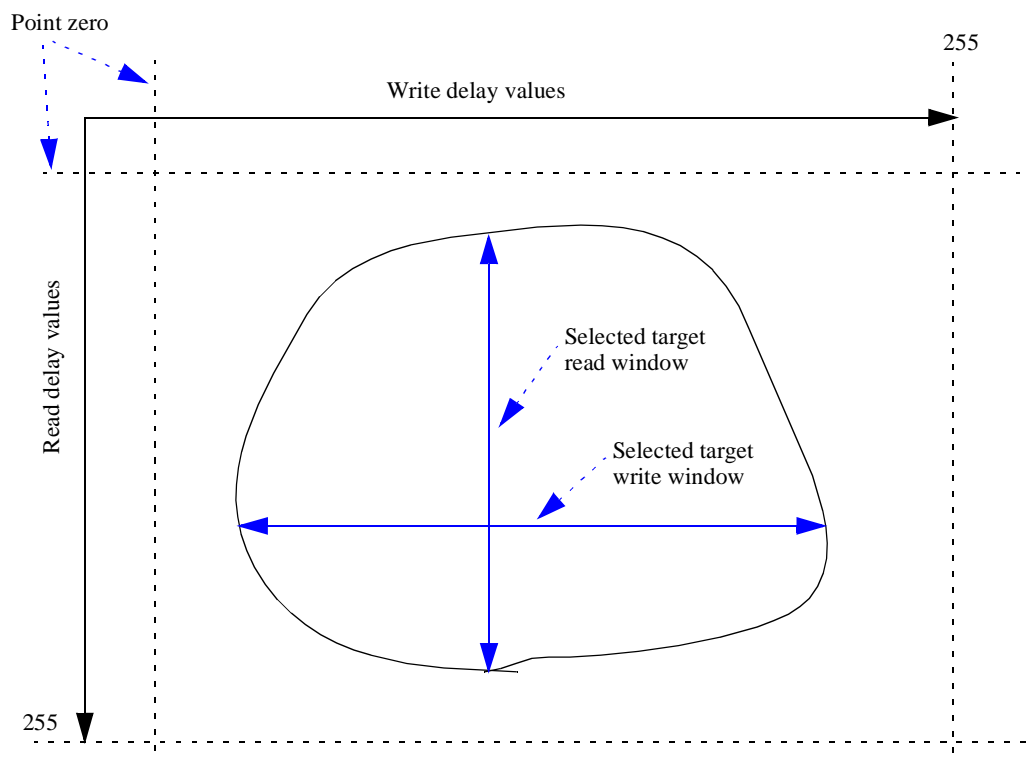

Figure 4. Selection of the Target Window
6. Find the target write window—Program the read delay values that were found. Starting from point zero, increase the value of DLY\_ABS\_OFFSET\_5 by 5 units (until it reaches the maximum value –255) and invoke the typical check function. Select the largest window, as shown in Figure 4. The resulting window is the target write window, which is used to find the true write window in step 8.
The target window is selected by taking the largest working window that is found. This is done for read (per each byte) and write, as shown in Figure 4.